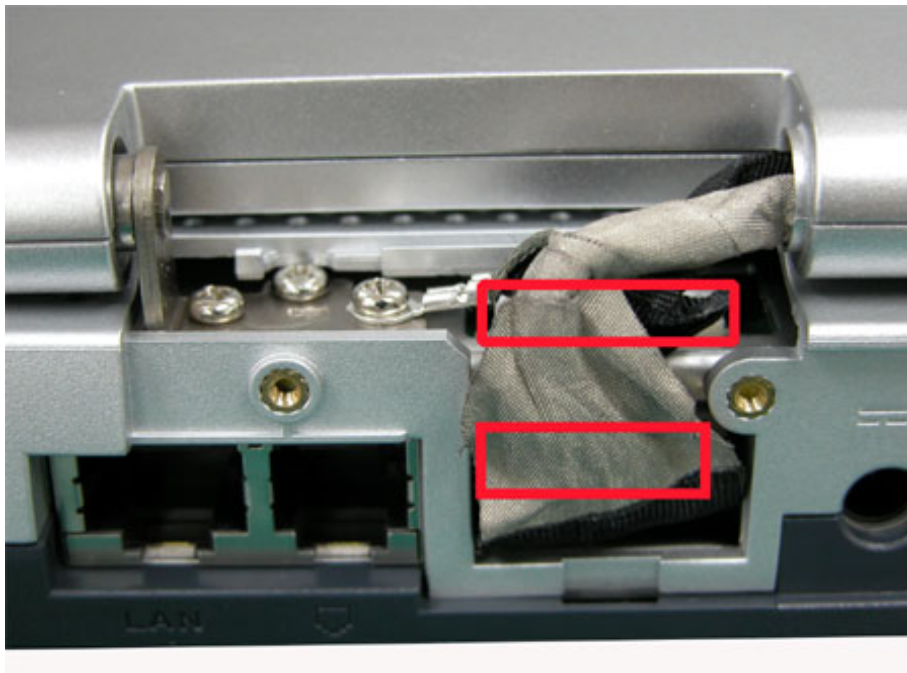

Fig. 12 Disconnecting LCD Cable
2. Disconnect LCD cable as shown in Fig. 12